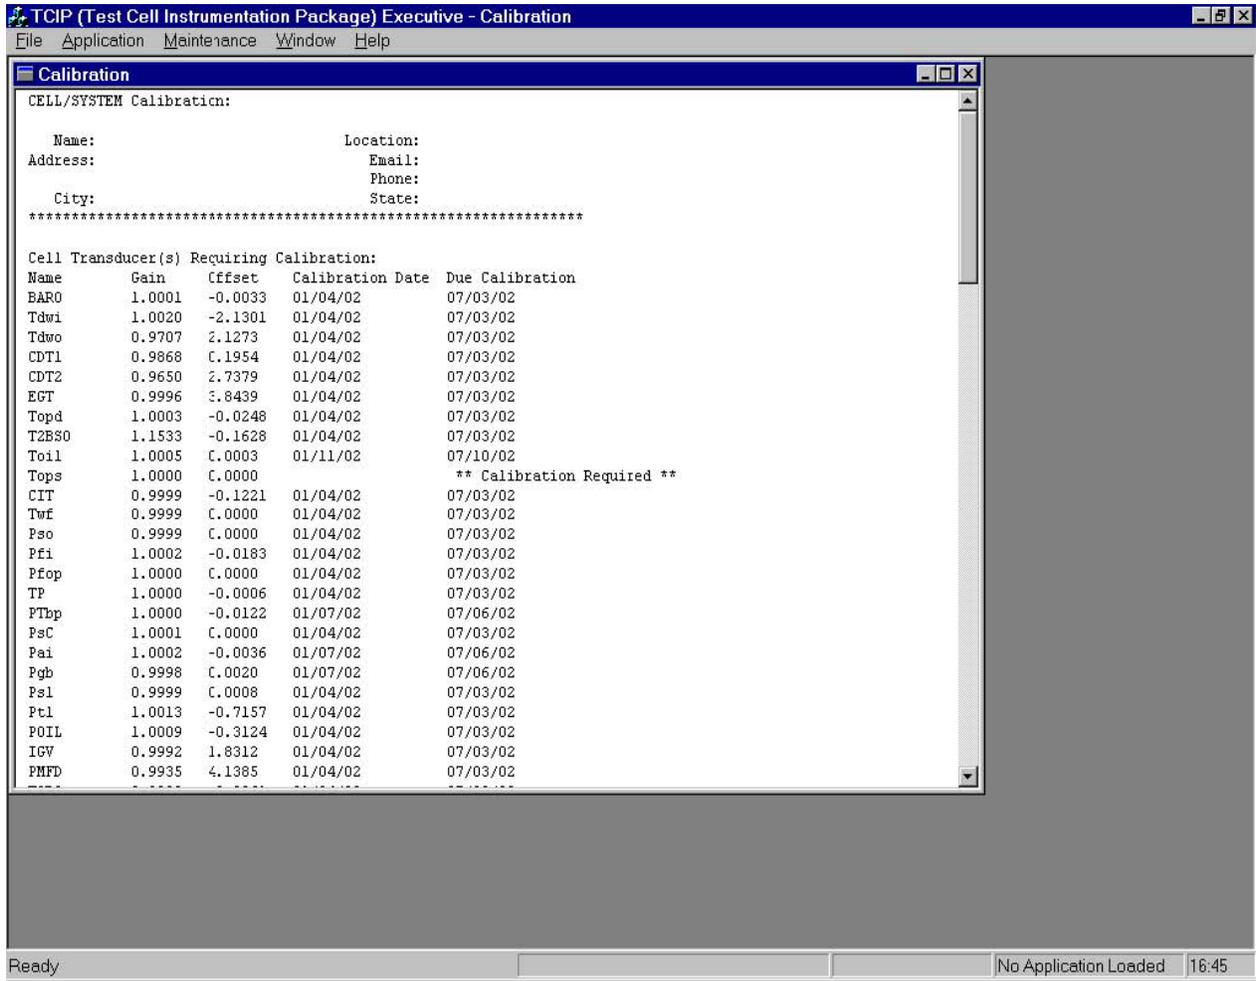

Figure 14. View Calibration
- (1) From the menu bar at the top of the TCIP executive window, select Maintenance | Calibration | View/Print Calibration. The Cell/System Calibration will appear similar to Figure 14.